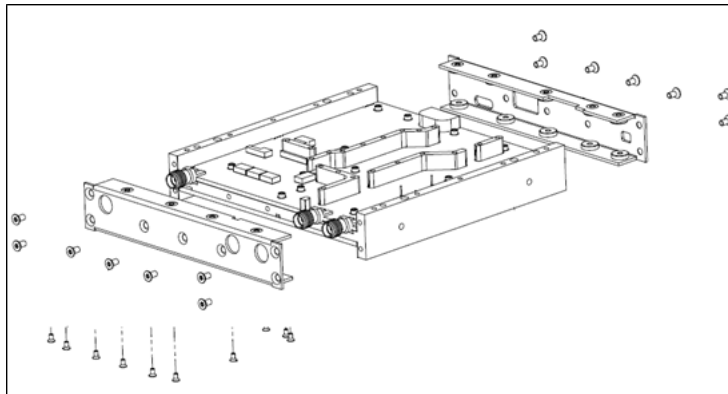

Figure 4-2. I/O Covers Removal
1. Remove the screws from the top and bottom of the MG36021A. There are 15 screws on the top side and 28 screws on the bottom side of the MG36021A housing. See Figure 4-2.
2. Remove I/O side panel screws on both sides. There are seven screws on each side. See Figure 4-2.